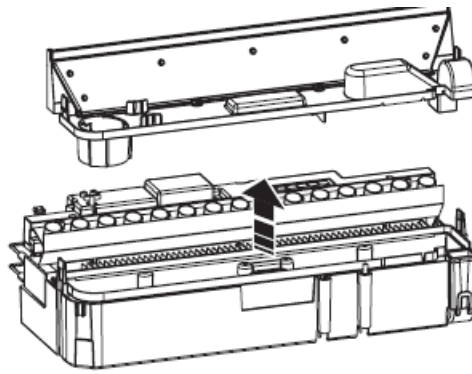

Fig 14
3. Disconnect the electrical connector to the transducers, located on the right side of the sump. (Fig 14).